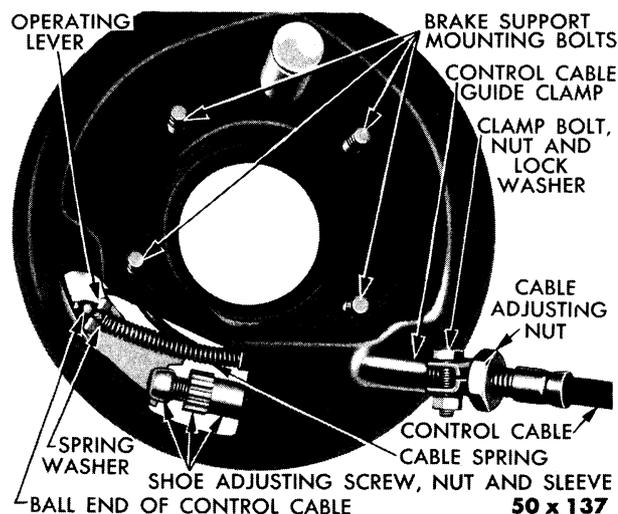

Fig. 27—Rear View of Brake
- (2) Hook the cable into the slot in the operating lever, with the lever between the ball and the washer, as shown in Figure 27.